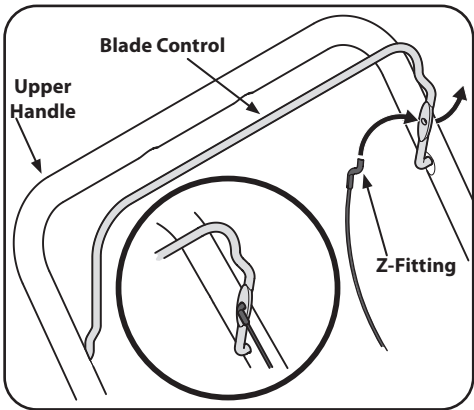

Figure 2-2
1. Hook the Z end of the brake cable into the control from the outside to inside. See Figure 2-2.